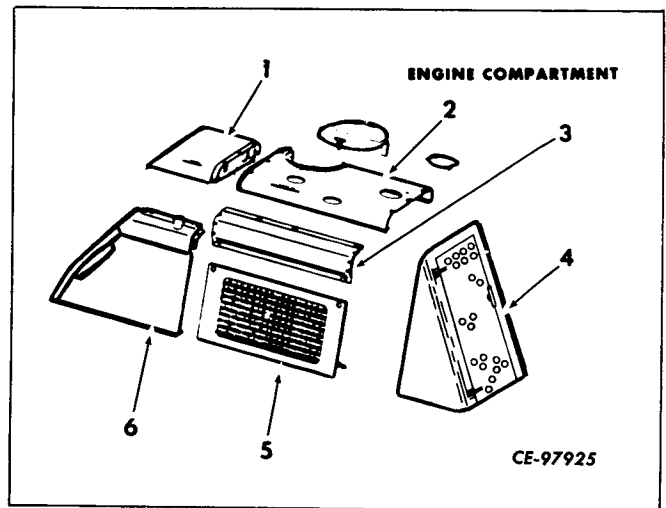

Figure 1-4
The engine compartment consists of the radiator grille (4, Fig. 1-4), side panels (6) and cowl (1) which are bolted to the front frame. The hood (2) and side panels are supported by the grille and cowl.